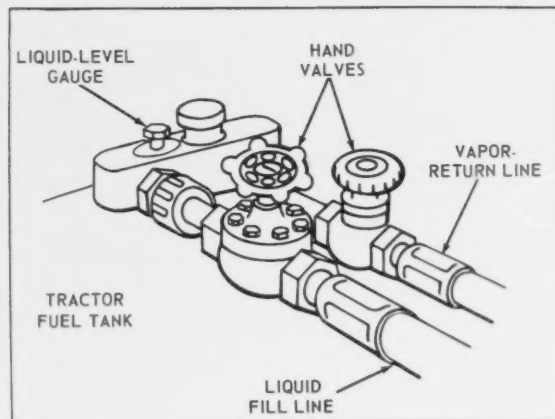

Fig. 15—Hand-Operated Valves On Hoses Which Connect To Machine Tank
3. Attach vapor-return line to vapor-return connection on machine and open hand valve (Fig. 15).
tank and open valve (Fig. 15).